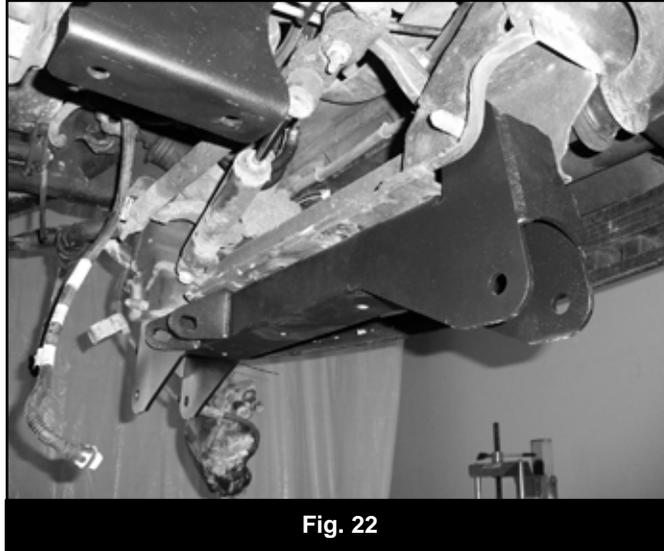

Fig. 22
42. Locate the new front crossmember (02190). Install the crossmember in the front lower control arm pockets so that the two longer differential mounting tabs are on the driver's side pointing rearward (Fig 22). Fasten the crossmember with the original lower control arm hardware. Run the bolts from front to rear. Leave hardware loose.